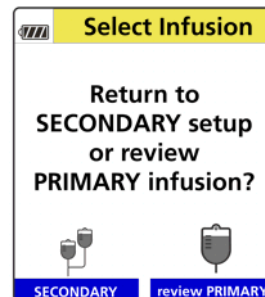

Figure 117. Select Infusion Screen.
- When no additional flushes are available (maximum of 3), a Select Infusion screen displays to return to the Secondary Setup or Review Primary infusion. See Figure 117.